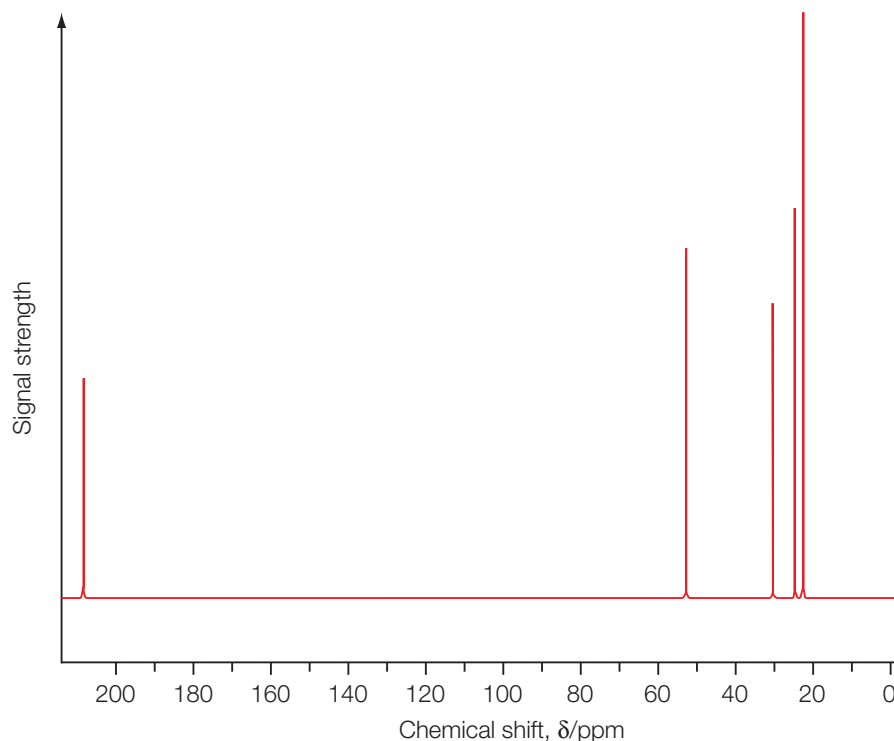

Figure 9.5 ◀
Figure 9.5 illustrates the principles of carbon-13 NMR in a more complex example. Here too, every carbon atom, or group of carbon atoms, in a chemically distinct environment gives a separate peak in the NMR spectrum.
- b) 4-methylpentan-2-one (Figure 9.5).